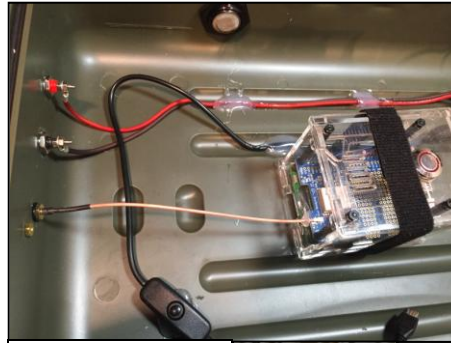
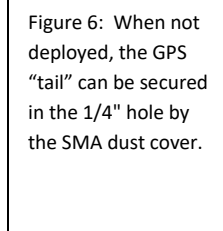
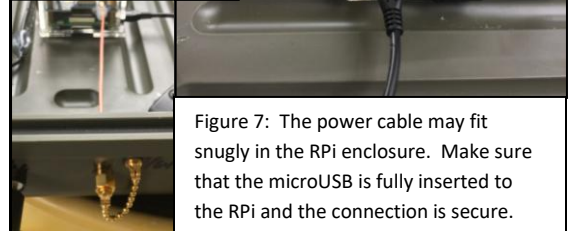

Figure 5: Make sure that you can access the Wifi pushbutton when the RPi is strapped in place.
Figure 6: When not deployed, the GPS "tail" can be secured in the 1/4" hole by the SMA dust cover.
Figure 7: The power cable may fit snugly in the RPi enclosure. Make sure that the microUSB is fully inserted to the RPi and the connection is secure.
- Secure the RPi in place with the strap you glued in the center of the case (Figure 5). Fit the GPS "tail" through the 1/4" hole and hold in place with the SMA dust cover (Figure 6). Plug MicroUSB power cable into RPi3 (Figure 7).